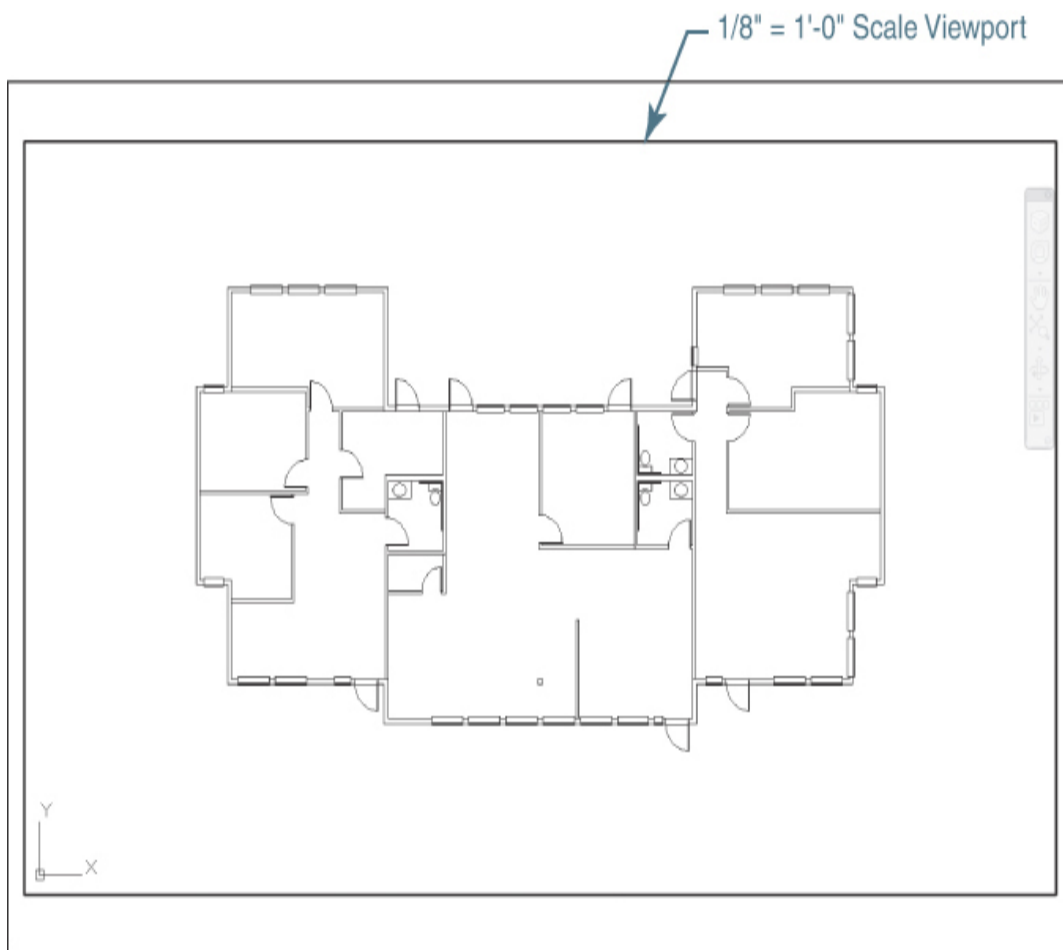

Figure 14-30
- 12** **Layout2** should now look similar to Figure 14-30. It is now a 1/8" = 1'-0" scale drawing on a B-size sheet (17" × 11").